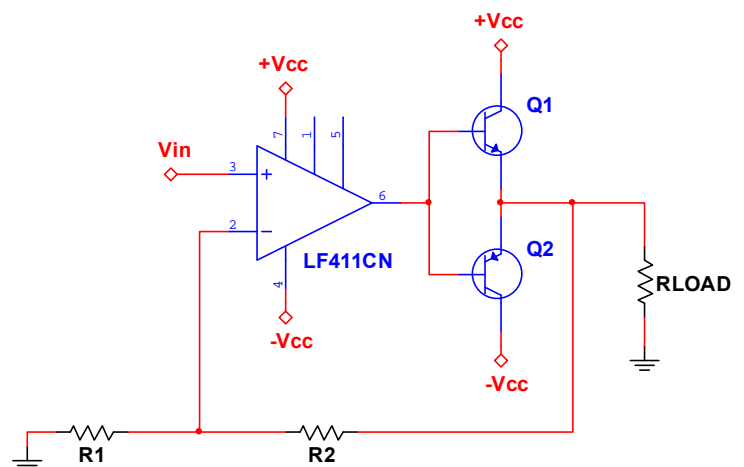

Fig. 9: Non-inverting op amp with totem-pole stage.
- 9) Design a non-inverting voltage amplifier based on an op amp and Class B current booster (see Fig. 9). The design requirements are the following: